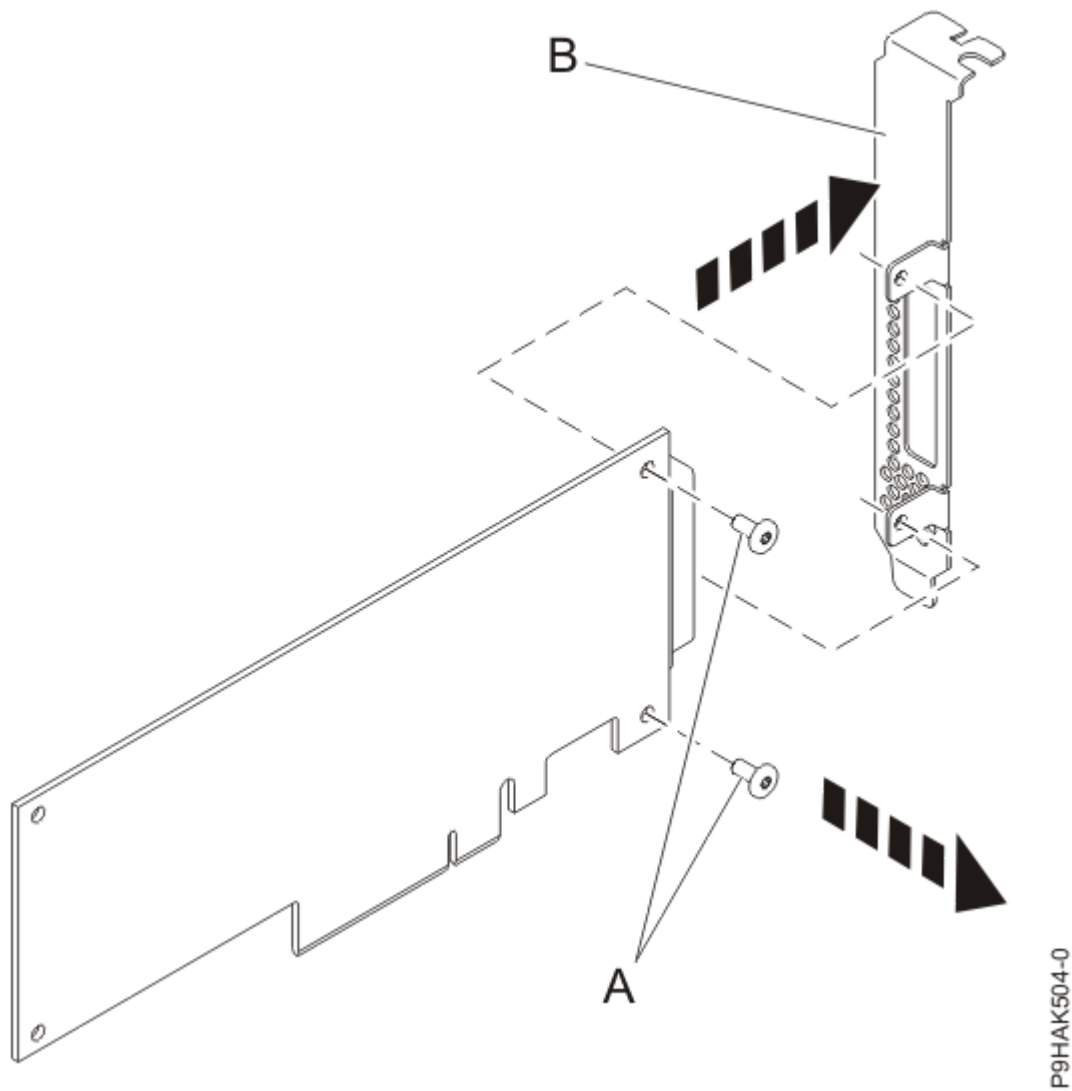

Figure 67. Removing the high-profile tailstock from a new adapter
8. Using a Phillips screwdriver, unscrew the two retaining screws **(A)** that attach the high-profile tailstock **(B)** to the new adapter, as shown in Figure 67 on page 90.